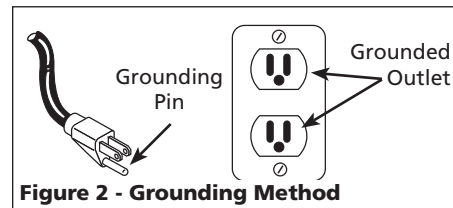

Figure 2 - Grounding Method
- This product is for use on a nominal 120 volt circuit and has a grounding plug that looks like plug illustrated in Figure 2. Make sure that product is connected to an outlet having same configuration as plug. This product must be grounded. In the event of an electrical short circuit, grounding reduces risk of electrical shock by providing an escape wire for electric current. This product is equipped with a cord having a grounding wire with an appropriate grounding plug.